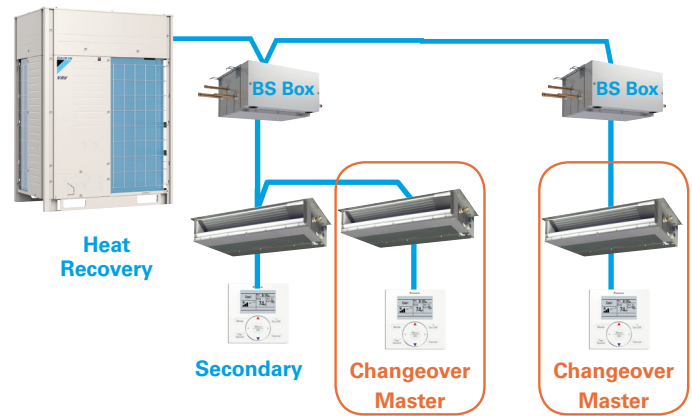

Fig 3. Heat Recovery System
- 3.3. Every unit or group of units connected to a BS Box port can either be in cooling or heating mode, i.e., units connected to the same BS Box port operate as a mini Heat Pump system. (See Figure 3)